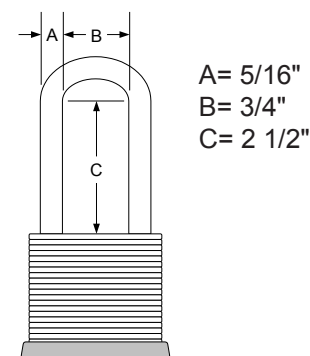

Figure 1, Lock Dimensions
- Lock (see Fig. 1 for dimensions)
The installation outlined in this document applies to each of the supported enclosures. See Page 2 for installation detail figures. Lock dimensions must conform to Figure 1.